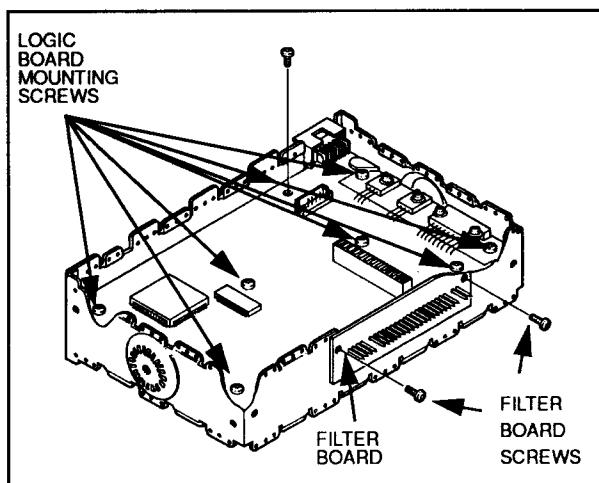

Figure 6.
(1) After the RF board has been removed, turn the radio over and pry off the logic shield, again being careful not to bend any one corner or side.
(2) Remove all logic bd mounting screws (figure 6).
(3) Now remove the two filter board screws from the front of the chassis (figure 6). The logic and filter boards can now be lifted out of the chassis.